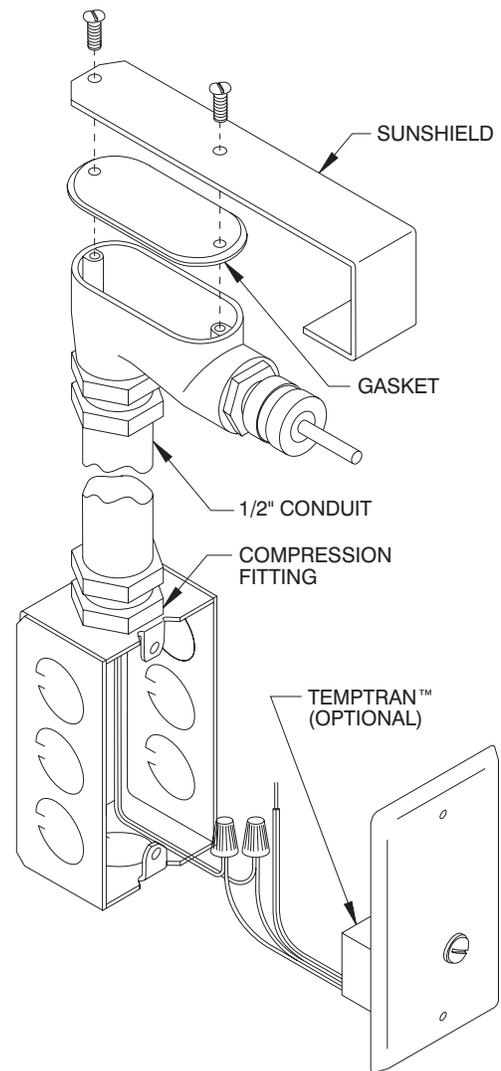

Figure 3: Outside air thermometer
2. Run 1/2" conduit to thermometer location. The thermometer may be installed horizontally (Figure 3), or vertically with the RTD sensor pointing down. Thread the thermometer's connection head onto the conduit.